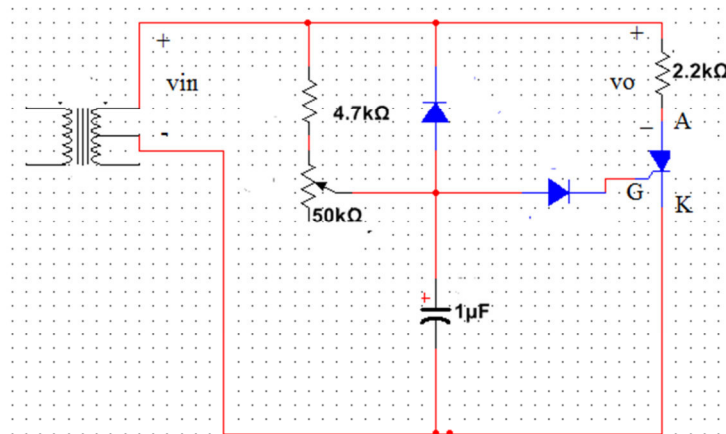

Figure 3.4: Single Phase Halfwave Controlled Rectifier
- Implement the single phase halfwave controlled rectifier circuit on breadboard as shown in the Figure 3.4.